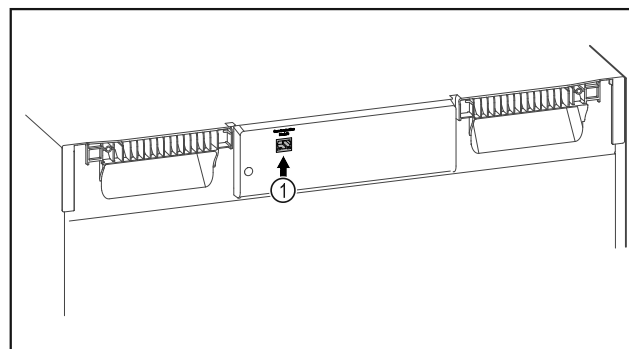

Fig. 105
- ☐ SmartModule Fig. 105 (1) is in use.